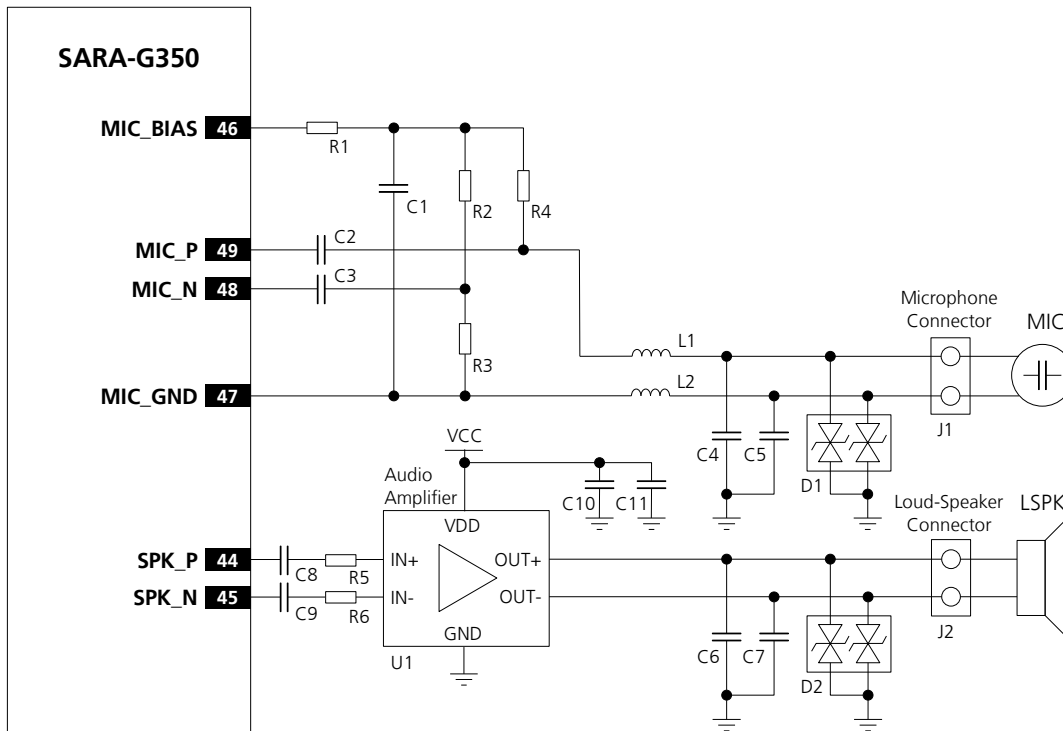

Figure 55: Analog audio interface hands-free mode application circuit
Figure 55 shows an application circuit for the analog audio interface in hands-free mode, connecting a 2.2 k $\Omega$  electret microphone and an 8  $\Omega$  or 4  $\Omega$  loudspeaker:
- External microphone can be connected to the uplink path of the module as described in Figure 55, since the module provides supply and reference as well as differential signal input for the external microphone
The general guidelines for the design of the analog audio circuit for hands-free mode, fulfilled implementing the circuit of Figure 55, are the following:
- Provide proper supply to the used electret microphone, providing a proper connection from the MIC\_BIAS supply output to the microphone. It's suggested to implement a bridge structure as described in Figure 55:
- Provide a series resistor at the MIC\_BIAS supply output and then mount a good bypass capacitor to provide additional supply noise filtering, as the R1 series resistor (2.2 k $\Omega$ ) and the C1 bypass capacitor (10  $\mu$ F) in the circuit implemented in Figure 55
- Connect the reference of the microphone circuit to the MIC\_GND pin of the module as a sense line: implement the connection described in Figure 55
- Provide a proper series capacitor at both MIC\_P and MIC\_N analog uplink inputs for DC blocking (as the C2 and C3 100 nF Murata GRM155R71C104K capacitors in Figure 55) to provide an high-pass filter for the microphone DC bias with proper cut-off frequency according to the value of the resistors of the microphone supply circuit, and then connect the signal lines to the microphone as described in Figure 55
- Provide proper parts on each line connected to the external microphone as noise and EMI improvements, to minimize RF coupling and TDMA noise, according to the custom application requirements. Following the circuit described in Figure 55:
- mount an 82 nH series inductor with self resonance frequency  $\sim$ 1 GHz (e.g. Murata LQG15HS82NJ02) on each microphone line, as L1 and L2 inductors in Figure 55
- mount and a 27 pF bypass capacitor (e.g. Murata GRM1555C1H270J) from each microphone line to solid ground plane, as C4 and C5 capacitors in Figure 55
- Provide a 47 nF series capacitor at both **SPK\_P** and **SPK\_N** analog downlink outputs for DC blocking (as the C8 and C9 Murata GRM155R71C473K capacitors in Figure 55) and then connect the lines to the differential input of a proper external audio amplifier which differential output has to be connected the 8  $\Omega$  or 4  $\Omega$  loudspeaker as for the Analog Devices SSM2305CPZ filter-less mono 2.8 W class-D Audio Amplifier in the circuit described in Figure 55
- Provide proper parts on each line connected to the external loudspeaker as noise and EMI improvements, to minimize RF coupling, according to EMC requirements of the custom application. Following the circuit described in Figure 55:
- mount and a 27 pF bypass capacitor (e.g. Murata GRM1555C1H270J) from each loudspeaker line to solid ground plane, as C6 and C7 capacitors in Figure 55
- Provide an additional ESD protection (e.g. EPCOS CA05P4S14THSG varistor array) if the analog audio lines will be externally accessible on the application device, according to EMC/ESD requirements of the custom application. The protection should be mounted close to accessible point of the line, as the D1 and D2 parts in the circuit described in Figure 55